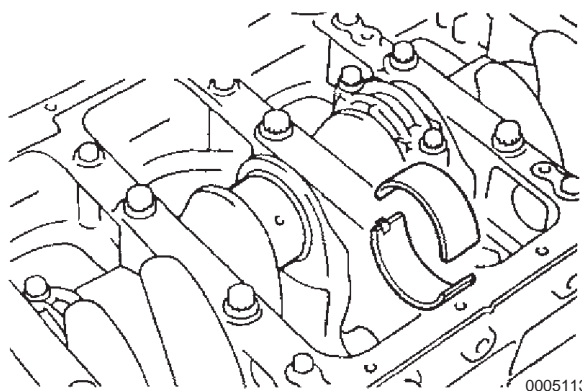

Figure 5-83
6. Insert the lower bearing to the connecting rod cap **(Figure 5-83)**.